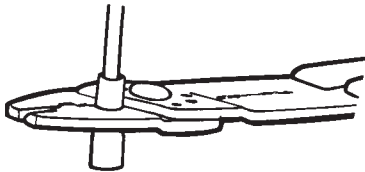

**FIGURE 7**
**STEP 6.** The power supply/wall outlet assembly may be flush mounted in most standard electrical boxes. To flush mount cut a hole in wall to fit the box. Run 2 #12 wires between wall outlet and +12 VDC source and route download cable to this location. Install cable between set 2 outlet and power supply SET 2 jack at this time. See Figure 7.
**STEP 7.** Install connectors on download and set 2 cable as shown on page 4. Attach antenna download cable to jack on power supply marked "ANT". See Figure 7.